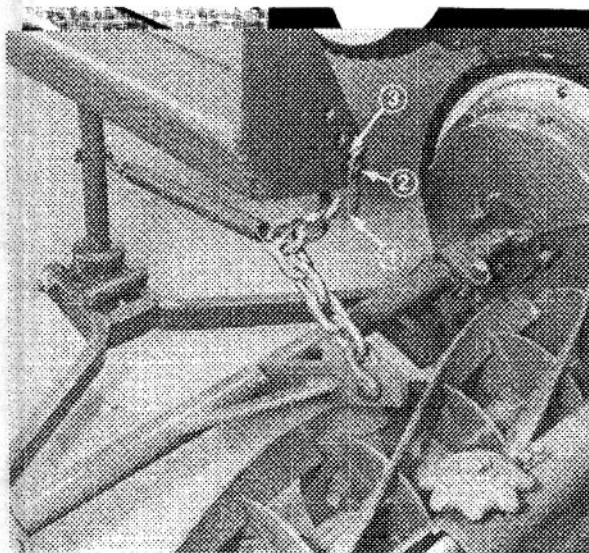

Figure 14
4. Secure short lift chains to No. 6 and No. 7 lift arms (side) with long shackles, clevis pins and cotter pins (Fig. 14). Secure to outer hole in lift arm bracket.